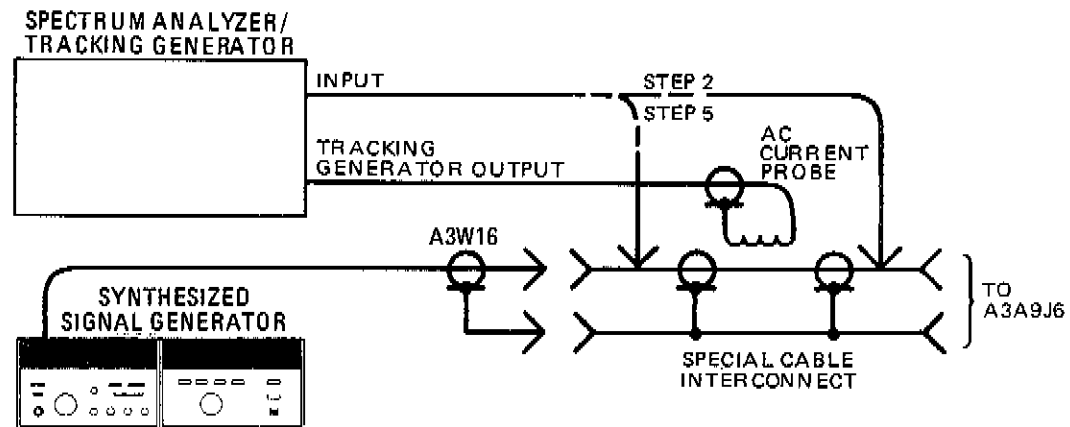

Figure 5-8. YTO Loop Phase Detector Adjustment Test Setup
2. Connect the equipment as shown in Figure 5-8. The special interconnect cable is inserted between A3W16 (gray cable) and A3A9J6 (YTO Tune 1).
6. Press the single sweep pushbutton. Check that the gain-crossover frequency is  $20 \pm 2$  kHz. If the gain-crossover frequency is not correct, A3A9A4R20 must be changed to set the correct frequency. Refer to Figure 5-8.